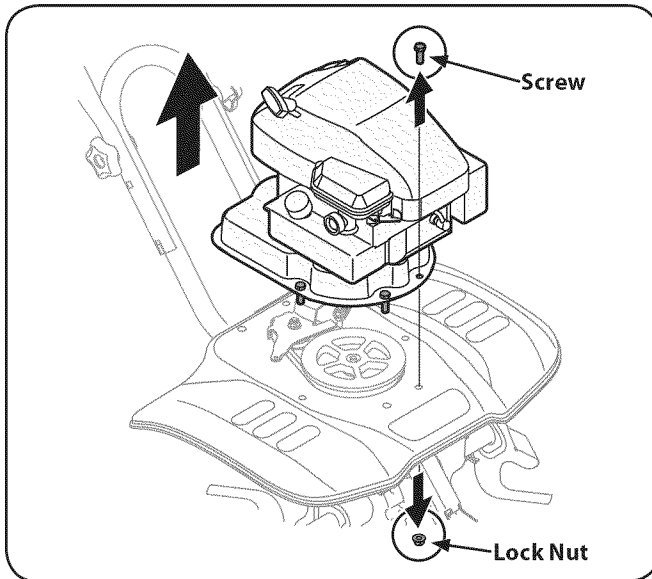

Figure 7-1
1. Remove the belt cover and engine by removing the six screws and lock nuts holding the engine and cover to the shield. See Fig. 7-1.